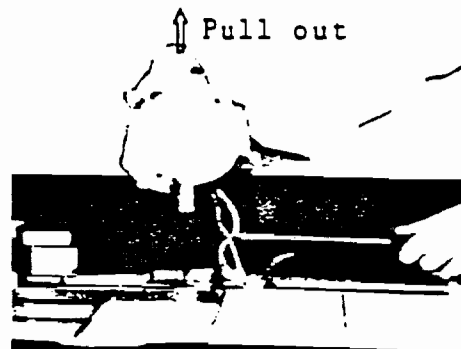

fig.7-5
- ⑥ Loosen the nuts (M5 nut : 2 sets) which hold the character assy and pull the character assy upward to remove and replace. [Ref. Fig. 7-5]